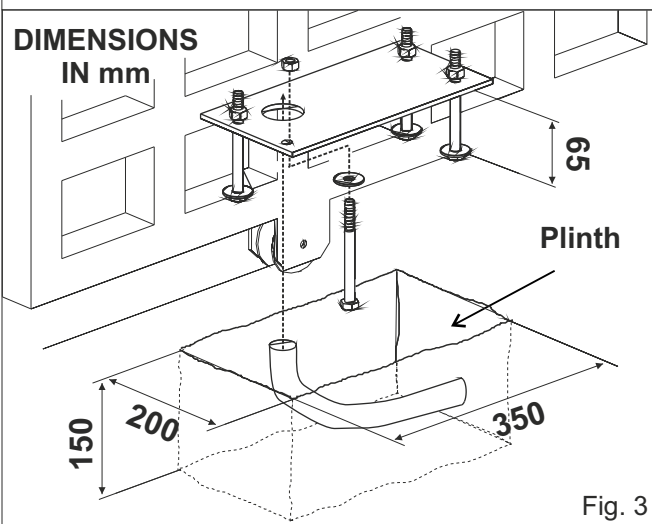

Fig. 3
- 2.1. Prepare a concrete basement according to the dimensions shown in Fig. 3; The foundation plate and the anchor bolts will be concreted inside the basement